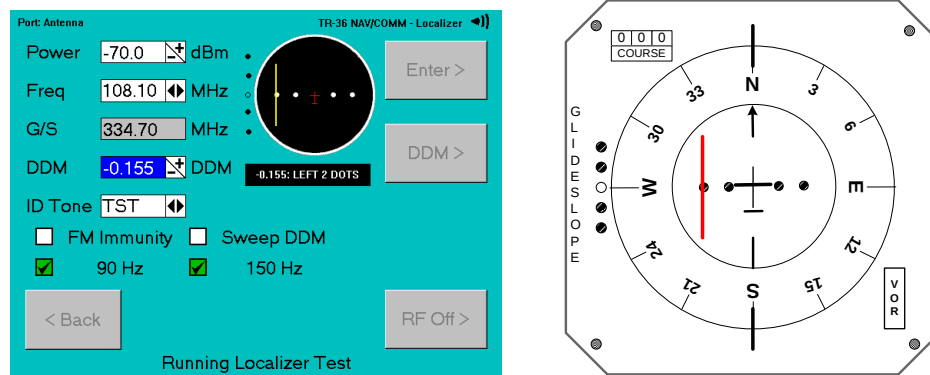

Figure 2-27. LOC 2 DOTS Left
10. Select the **DDM >** Soft Key to cycle through the Preset “DOT Selections” and verify the Aircraft Under Test follows suit (Figure 2-27/28):